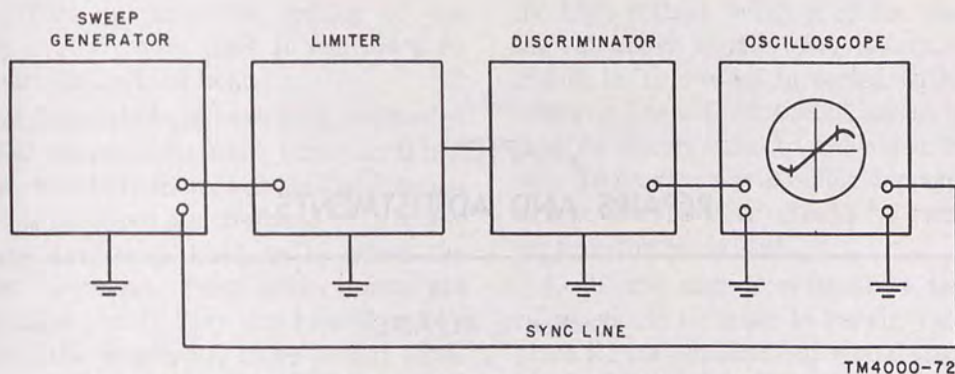

Figure 84. Connections for visual alinement of discriminators.
- (1) Figure 84 shows the block diagram connections required for discriminator alinement. The two pips shown on the oscilloscope of the figure may be obtained by connecting two marker signals, at the upper- and lower-limit frequencies of the IF pass band, in parallel with the sweep-generator input.
- (2) Connect the vertical input of the oscilloscope across the audio output circuit of the discriminator. Connect the fm sweep generator to the grid circuit of the last limiter stage. Connect the sweep voltage of the fm generator (sync line of fig. 84) to the horizontal input of the oscilloscope.
- (3) If the discriminator is properly alined, a sharply defined S curve will appear well-centered on the oscilloscope. A further aid to determine the linearity of the discriminator is a marker signal at the center of the IF pass band. This marker will appear at the center of the S curve when the linearity is good.
- (4) A raggedly shaped S curve indicates a poorly alined primary circuit. Tune the primary of the discriminator input circuit until a smooth S curve (fig. 84) of maximum amplitude is obtained.
- (5) The secondary of the discriminator is tuned for maximum length of the linear portion of the S curve. If the marker signal is used ((3) above), the tuning is for centering of the S curve on the marker pip.